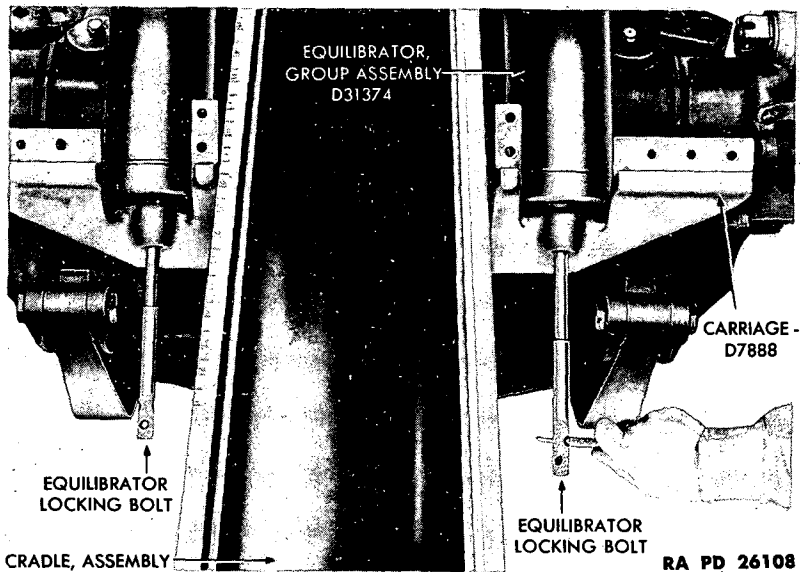

Figure 101—Installing Equilibrator Locking Bolt
(3) The equilibrator spring pressure is adjustable within limits to obtain the lightest and most uniform resistance to elevation and depression. This adjustment is obtained by screwing the trunnion pins in or out as the case may be.
(4) The front or lower end of the equilibrator is designed to receive the equilibrator locking bolt (fig. 31). This bolt is a tool used to hold the equilibrator spring in the compressed position while the equilibrator is being removed or installed (fig. 101).
(c) Insert the equilibrator assembling or locking bolt through the opening in the cup-shaped bearing of the top carriage and through the equilibrator barrel (fig. 101).
(a) Place the equilibrator barrel end in the cup bracket of the top carriage with the equilibrator locking bolt projecting down through the cup bracket (fig. 101).